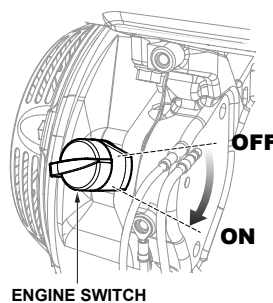

Figure 19. Engine On/Off Switch
4. Turn the engine switch (Figure 19) to the **ON** position.